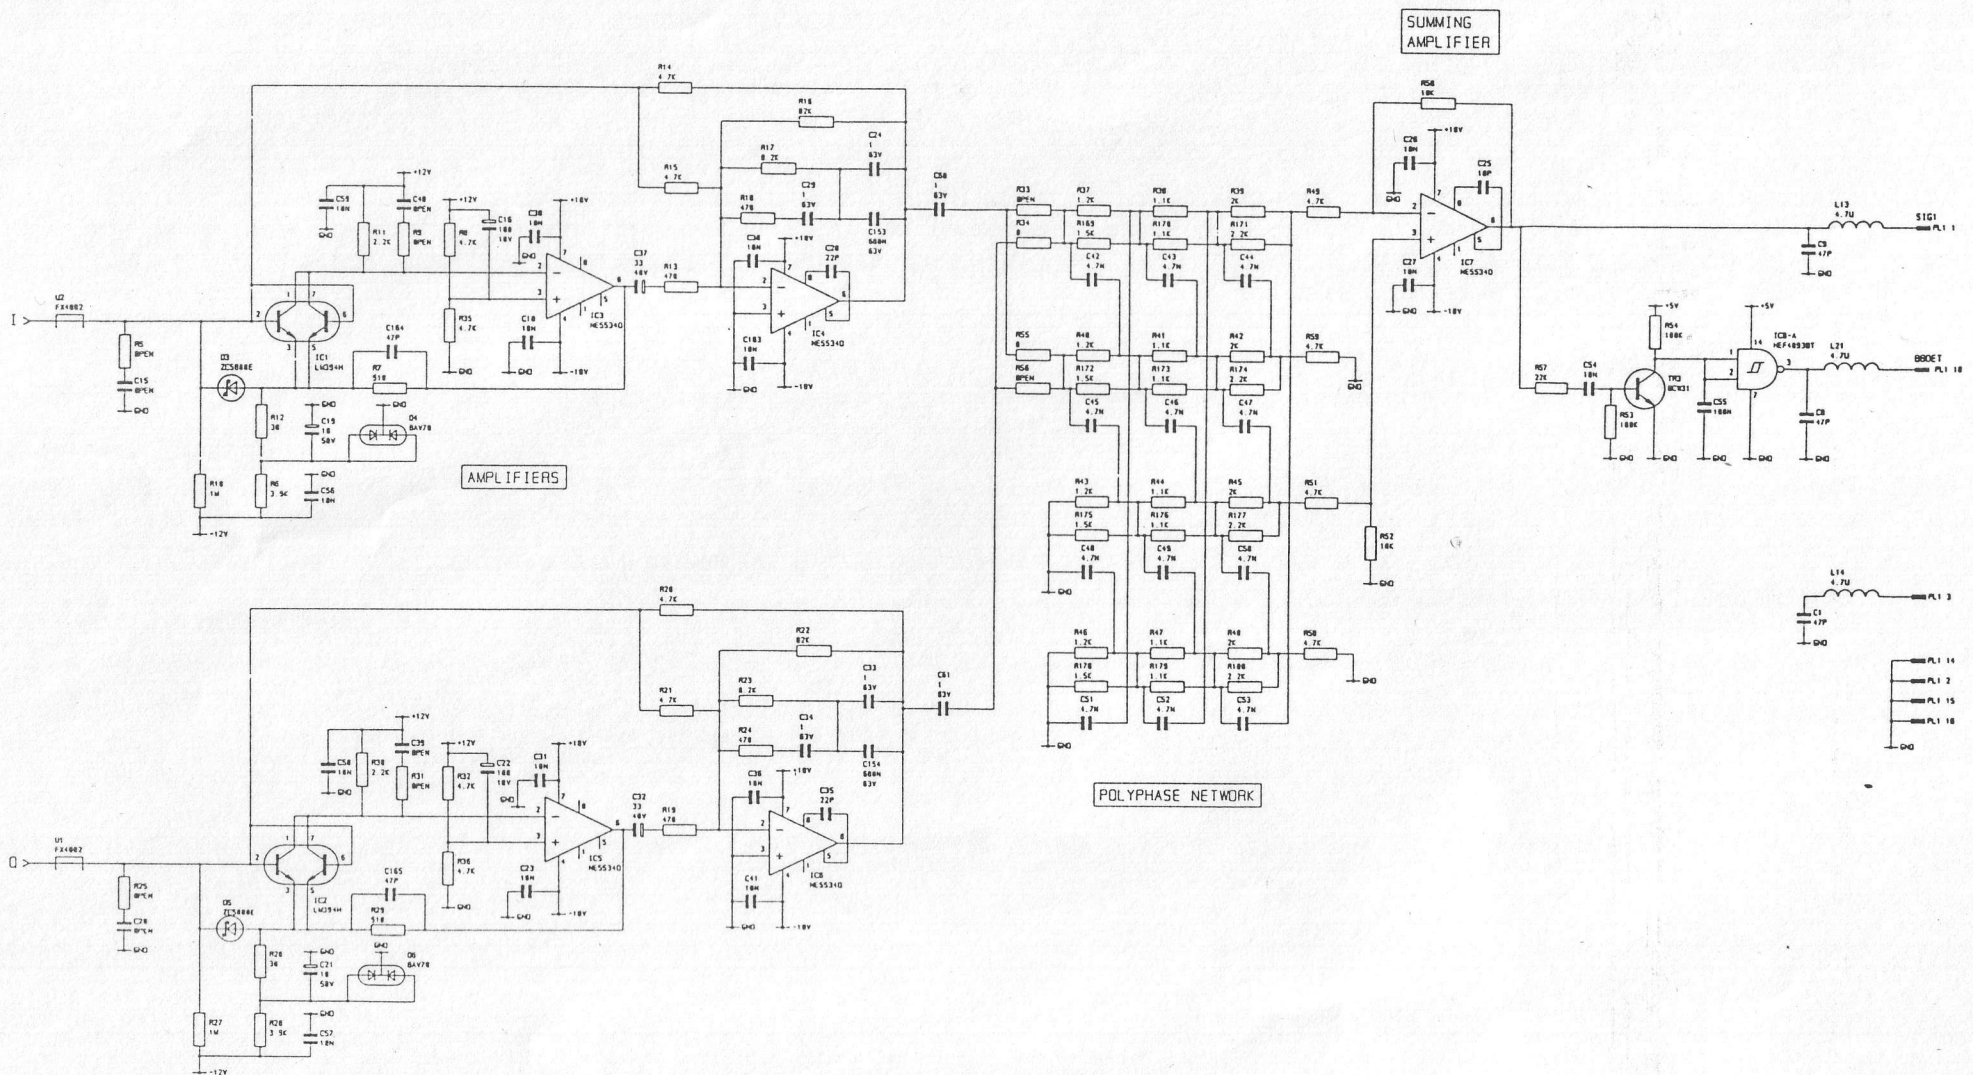

Figure 5 - IF Module Circuit Diagram
- Figure 5 VCO Varactor and Pin Board Component Layout